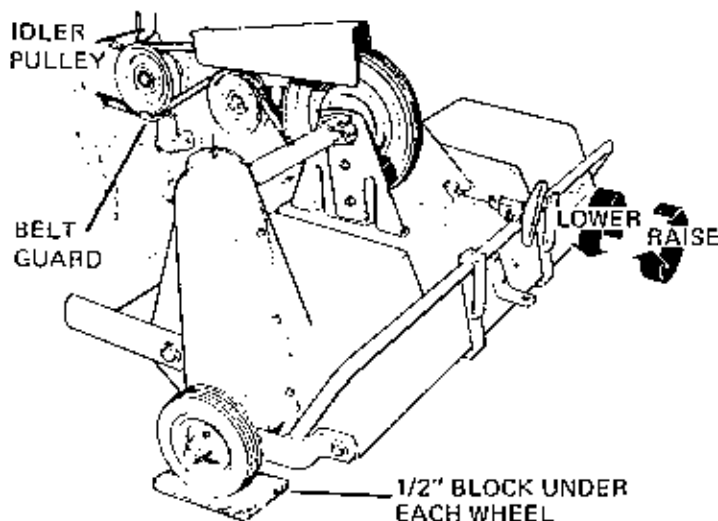

FIGURE 6
(See figure 6) Adjust the depth with the Revitalizer in the lowered position. The cutting depth of the revitalizer knives may be precisely adjusted by turning the T handle at the rear of the revitalizer clockwise to raise the knives and counter clockwise to lower them. For use in Spring and Fall as recommended, the knives should be set about 1/2 inch deep. The 1/2 inch depth may be set quite easily and accurately on a level surface by placing a 1/2 inch block under each of the revitalizer guide wheels. **BE SURE THE TRACTOR ENGINE IS STOPPED.** With the revitalizer clutch disengaged for ease of turning, alternately rotate the drive pulley on the revitalizer and turn the depth adjusting handle until the ends of the knives just hit the ground surface. The revitalizer should now be set at 1/2 inch cutting depth. The grooves in the ground may also be checked after operating a short distance to insure the correct depth setting.
4. (See figure 6) Remove the belt guard and idler pulley from the reverse idler assembly and replace the damaged belt with a new Simplicity belt.